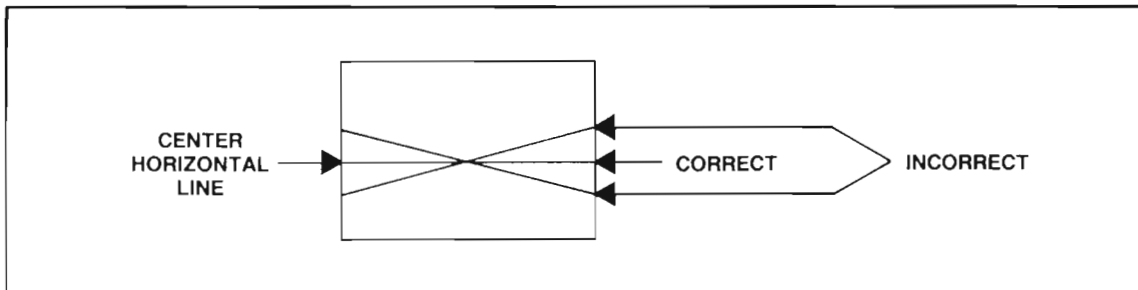

Figure 10
3. Now that the center horizontal line is straight, check that it is parallel to the top of the screen. (See Figures 10 and 11.)
4. To level the center horizontal line, rotate the yoke until the line is parallel with the top of the screen. (See Figures 10 and 11.) Check that the yoke is in its forwardmost position. Tighten the key. (Do Not Overtighten.)